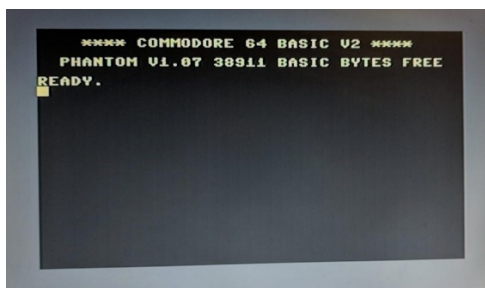

Figure 1
- Close up your Commodore 64, and do a power on test of your Commodore 64. One of the switch positions will provide you with the factory start up screen, and the other position will be the Phantom start up screen that will look like figure 1.